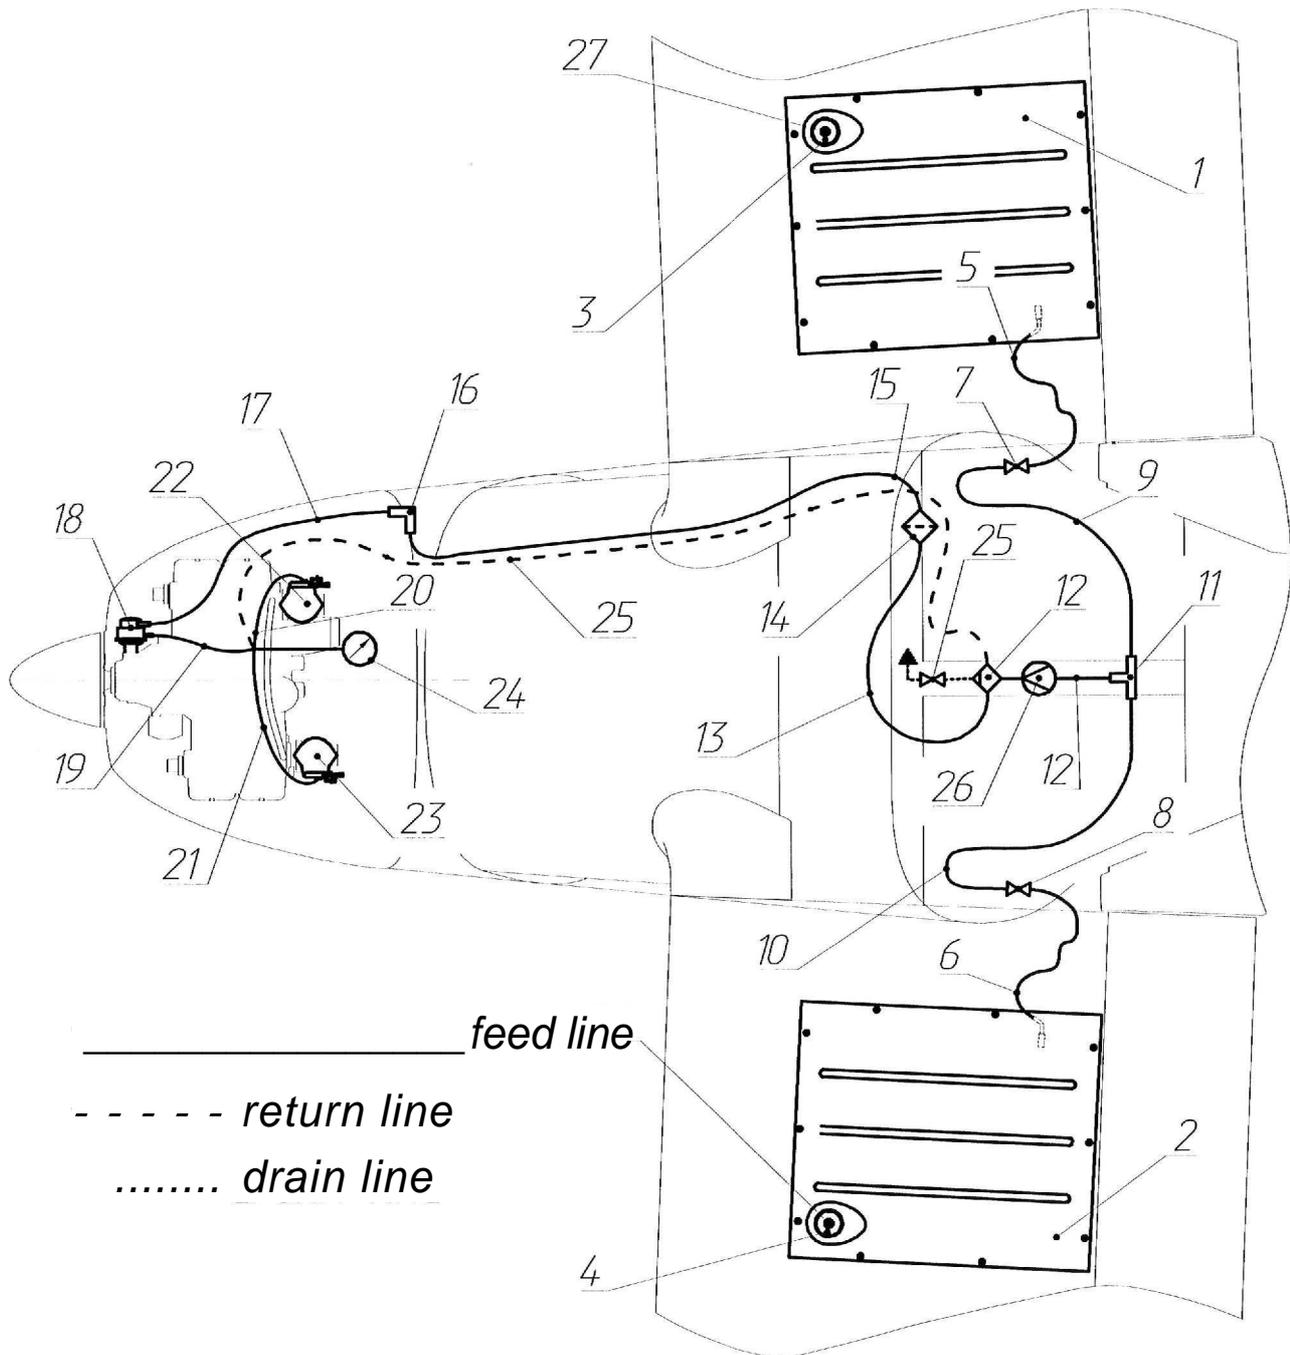

Fig. 3. Fuel system schematic
The fuel system (see Fig. 3) includes two wing fuel tanks (1,2), fuel lines (5,6,9,10,12,14,16,18,19,20,), two shut-off valves (7,8), fuel sediment collector (11), fuel filter (13), fuel pump (17), return line (24), drain line (25) and drain valve (25). The fuel tanks (11.9 (15.05) US gal each) are located at the wing root between the spar and aft web. The fuel inlet 3(4) is located at the front outboard corner of the tank. The inlet cover has vent fitting 27(28) connecting the tank volume free of fuel to the atmosphere. The fuel shut-off valves (7,8) are located on the vertical beams of the frame No.3, on the left and right sides respectively. The shut-off valve is open when its handle is set vertically and closed when the handle is set horizontally. The left and right fuel tank is connected with the fuel lines to the left and right fuel shut-off valve respectively. Further two fuel lines are joined into a single one with the T-connector, which is located near the web of the frame No.4 at its bottom part. Then fuel goes to the fuel sediment collector (12). The top outlet of the fuel sediment collector is connected to the fuel filter (14) located on the right side behind the main landing gear beam. The fuel filter can be inspected visually through a window in the protecting cover of the aileron control cables. The bottom outlet of the fuel sediment collector is connected to the drain valve (25) with a fuel line. The drain valve allows draining fuel through the hole in the bottom rear panel of fuselage. The valve handle is accessible outside of the fuselage. After the fuel filter the fuel line (14) runs through the main landing gear beam, seat beam along the right-hand side of fuselage to the firewall where it is connected with a 90° bulkhead fitting (15), that is passing through the hole in the firewall, to the fuel line of the engine (16) and is connected to the inlet of the fuel pump (17) located on the right-hand side of the engine gearbox. The pump outlet is connected with the fuel lines (18,19,20) to the carburetors (21, 22). The excessive fuel is returned through the line (24) to the sediment collector (11). The fuel system optionally may contain fuel pressure sensor (24) and fuel flow sensor (26).